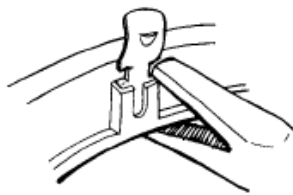

FIG. 9A
2. Insert two new RETAINING SPRINGS, that are provided with the reflector trim, into pocket of MOUNTING FRAME (Fig. 9A).
3. Then squeeze RETAINING SPRING into position with a plier (Fig. 9A).